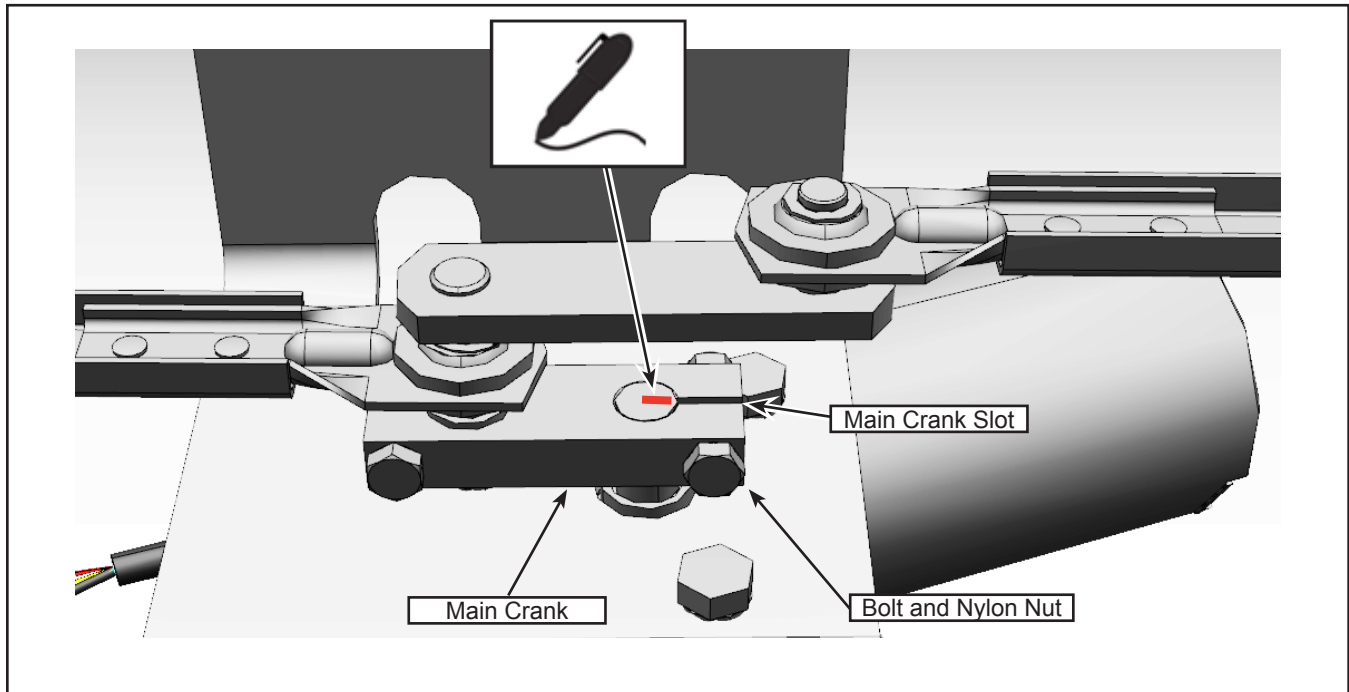

Figure 6 - Mark the Position on the Shaft and Remove the Main Crank
- 1.9. Make a mark on the motor shaft to identify the position of the slot of the main crank. See Figure 6.
- 1.10. Remove the bolt and nylon nut from the main crank. See Figure 6.